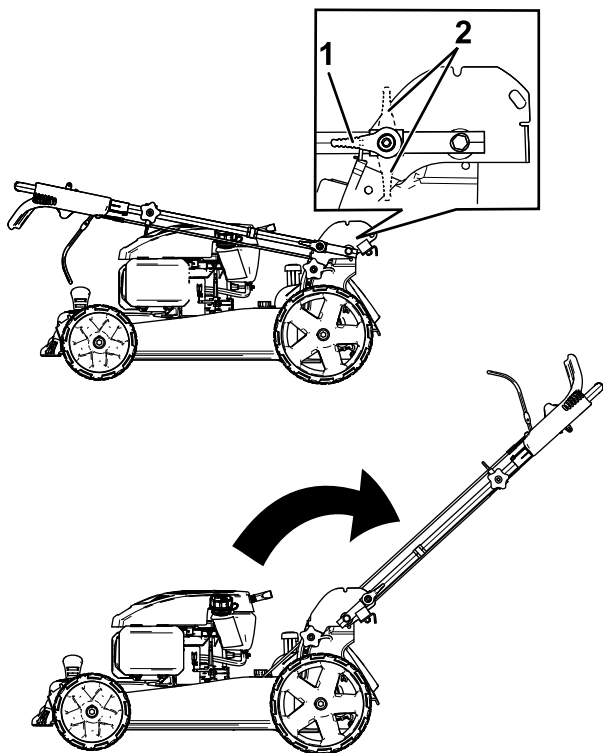

Figure 4
1. Move the handle rearward to the operating position (Figure 4).